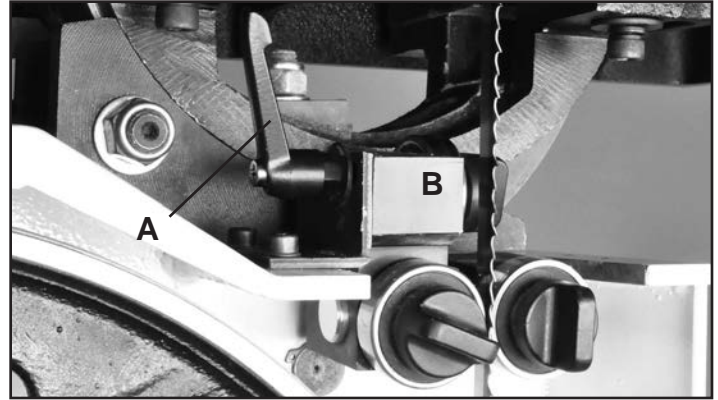

FIGURE 26 NOTE: Blade Guard removed for photo purposes
2. The guides should be approximately 1/16" behind the gullets of the saw blade. If they need to be moved, loosen the Lever Handle (#60A, Fig. 26, A), located to the left of the Lower Guide Block (#43A, B), and move this block that holds the guides so that the guides are properly positioned behind the blade gullets. Re-tighten the lever handle when done.